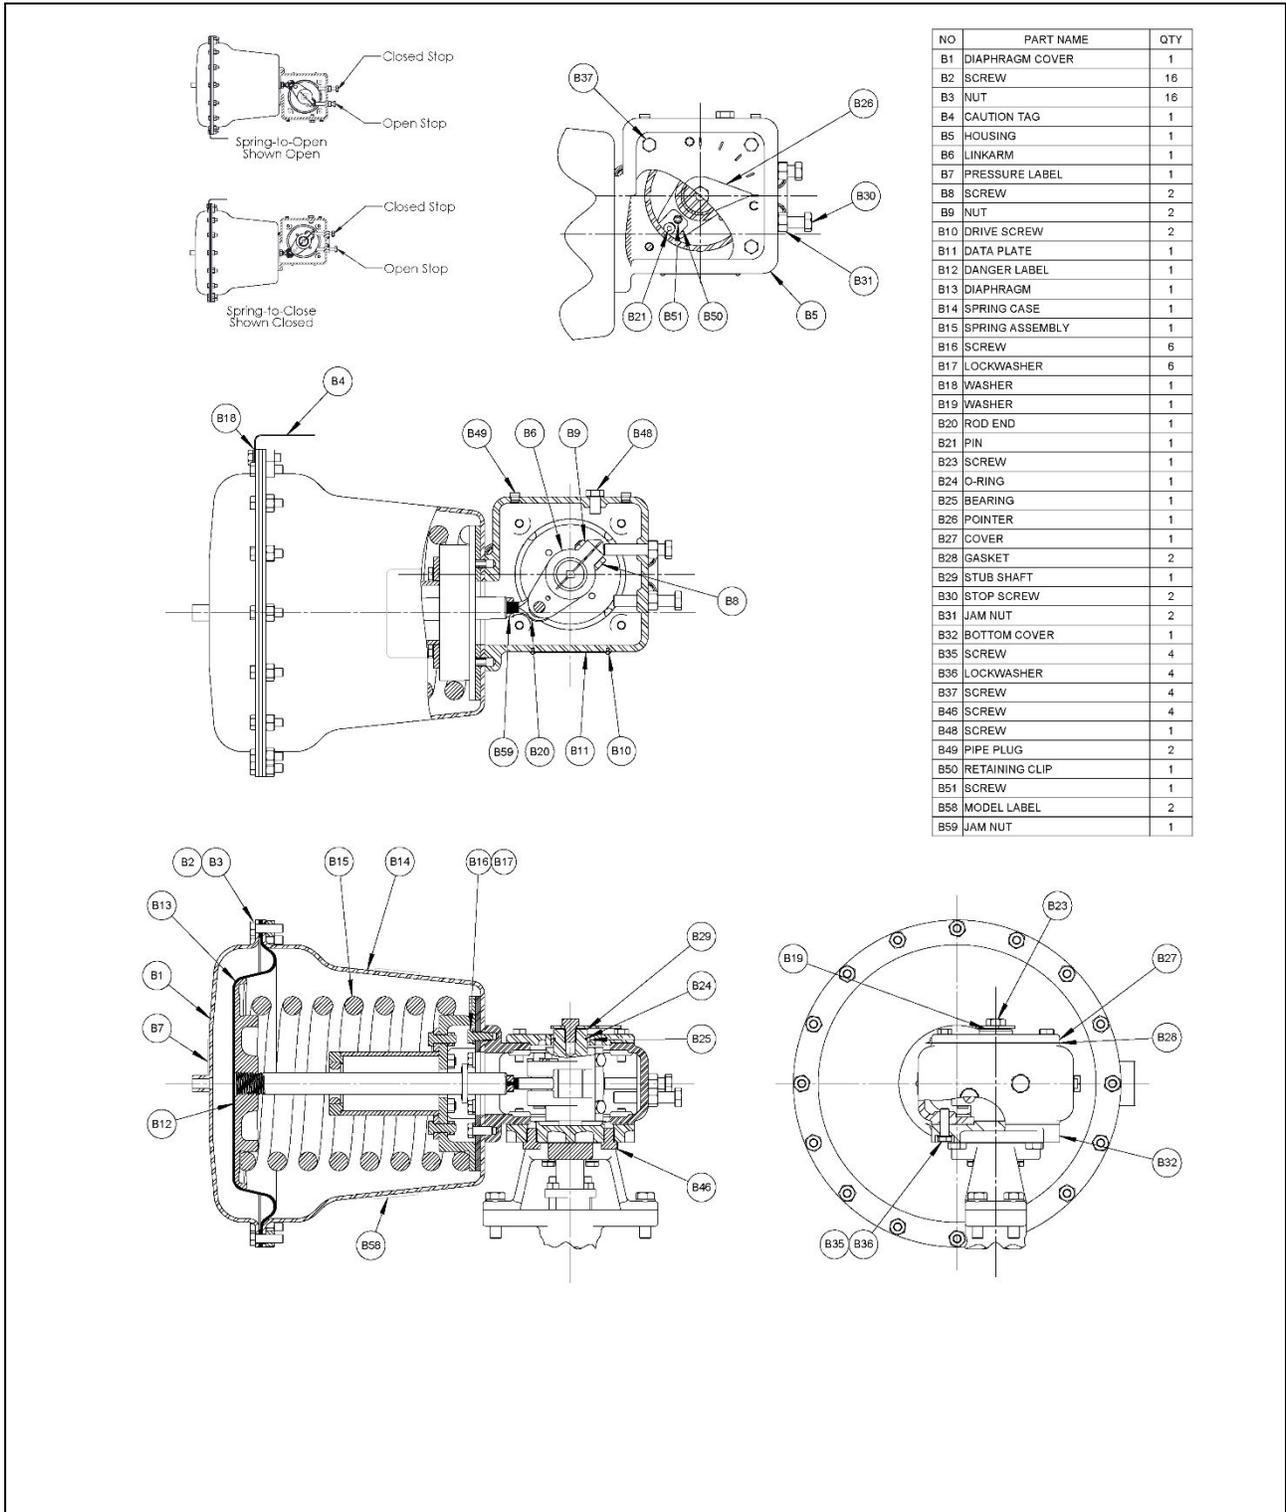
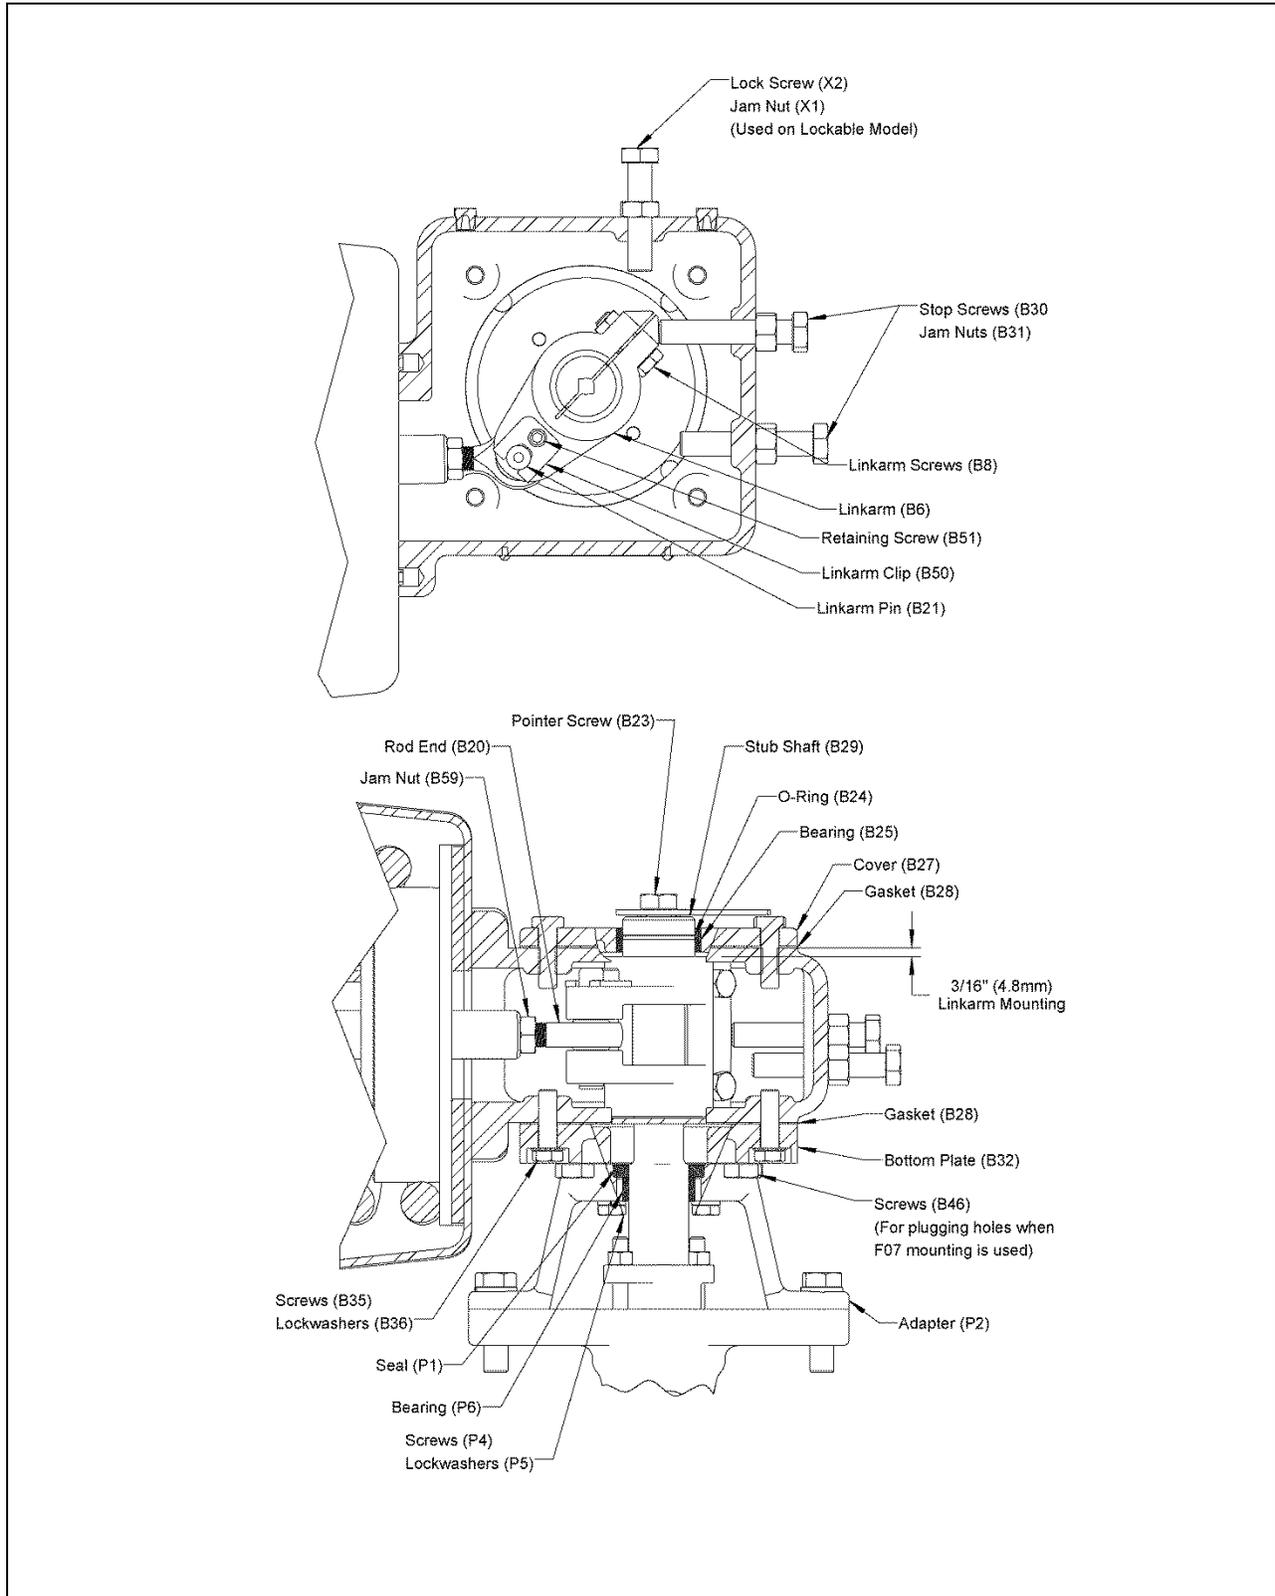

Figure 1—Parts Identification
Figure 1A—Parts Identification
One pneumatic signal line connection is required to the ¼ NPT port on diaphragm cover (B1) shown in Figure 1. The pneumatic signal pressure must equal—but not exceed by more than 10 psi (70 kPa)—the spring rating of 35 or 60 psi (240 or 410 kPa) as shown on the actuator label.
For high vibration installations, additional mounting support is recommended on the diaphragm end of the actuator to prevent damage to the actuator and/or the piping system. Mount the support from the pipeline to at least two of the diaphragm cover screws (B2) shown in Figure 1. Tighten the screws to 18 ± 2 foot pounds (24 ± 3 Nm).
The actuator is powered pneumatically, and rotates 90 degrees between the open and closed positions. The action of the actuator is either spring-to-close or spring-to-open, as determined by which side of the actuator is mounted to the valve, as shown in Figure 1. The action selected is shown on the actuator label. With spring-to-close, increasing pressure to the actuator opens the valve, and decreasing pressure closes the valve; with spring-to-open, increasing pressure closes the valve, and decreasing pressure opens the valve.
The open and closed position stops are the two hex head screws (B30) shown in Figure 1. The stops are adjustable and prevent the actuator from rotating beyond the open and closed positions of the valve. If the actuator is factory-mounted on the valve, the stops are preset and do not require further adjustment.
If the actuator is not factory-mounted on the valve, or if the actuator is removed and/or disassembled, the stops will require adjustment as described below. Refer to the valve instructions for closed-position information, and adjust the stops with the actuator mounted on the valve. Refer to Figure 1 for component identification.
2. Loosen the jam nut (B31) on the appropriate stop screw (B30). Refer to Figure 1.
Refer to Figure 1 and 1A for component identification.
5. Position the link arm (B6) 3/16" (4.8 mm) below the top of the actuator as shown in Figure 1A. Tighten the two link arm screws (B8) to 38 ± 5 foot pounds (52 ± 7 Nm).
Refer to Figure 1 for parts identification.
Refer to Figure 1 and Figure 1A for parts identification.